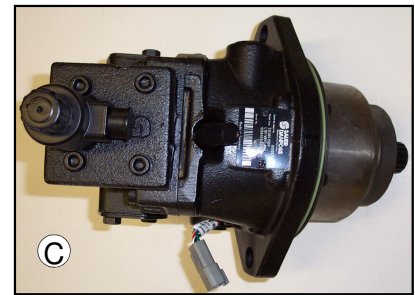
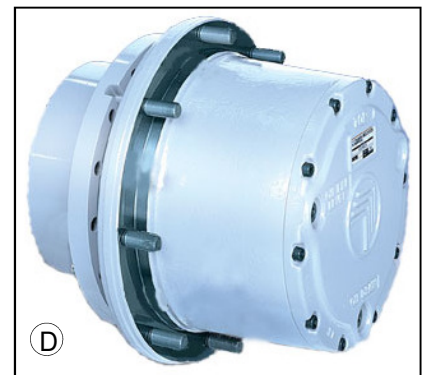

FIG. 32-3
FIG. 32-4
**WHEEL MOTORS AND WHEEL HUBS**–The STS 16's all-time four wheel drive system consists of the Sauer-Danfoss hydrostatic wheel motors (fig. 32-3) and the planetary gear reduction hubs (wheel hubs) (fig. 32-4).